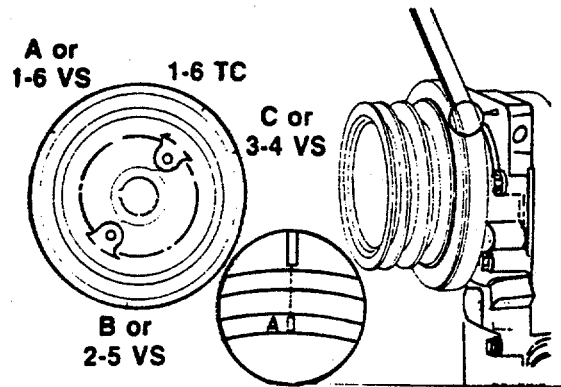

FIGURE 2-31. Aligning Pulley and Gear Pointer.
- (3) Injector Adjustment, Dial Indicator Method (Nonstop Injector Only).
- (a) Rotate the accessory drive clockwise until the "A" valve set mark on the accessory drive pulley is aligned with the point on the gear cover (Figure 2-31).
- (b) Rotate the accessory drive clockwise until the "A" valve set mark on the accessory drive pulley is aligned with the pointer (Figure 2-31).
- (a) With the "A" valve set mark aligned with the pointer on the gear cover (Figure 2-31) and both valves closed on cylinder No. 5, loosen the crosshead adjusting screw lock nuts on the intake and the exhaust valve crossheads for cylinder No. 5.
- (f) Adjust the intake and the exhaust valves on No. 5 cylinder before rotating accessory drive to the next valve set mark. Refer to Valve Adjustment item (6), in this procedure.
- (6) Valve Adjustment.
- (a) With the "A" valve set mark aligned with the pointer on the gear cover (Figure 2-31) and both valves closed on cylinder No. 5, loosen the lock nuts on the intake and the exhaust valve adjusting screws.